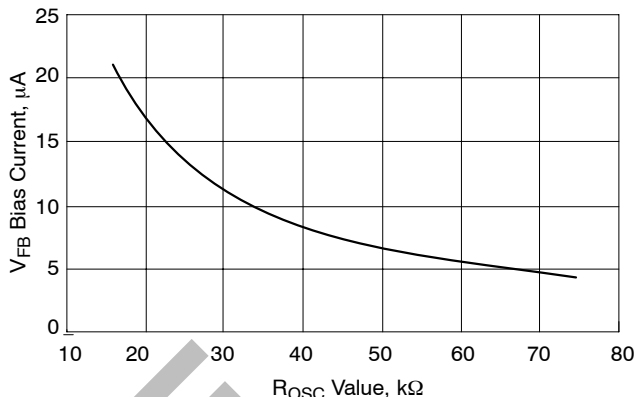

Figure 4. VFB Bias Current vs. ROSC Value
2. The  $V_{\text{FB}}$  Bias Current changes with the value of  $R_{\text{OSC}}$  per Figure 4.
To set the no-load positioning, a resistor is placed between the output voltage and  $V_{FB}$  pin. The  $V_{FB}$  bias current will develop a voltage across the resistor to increase the output voltage. The  $V_{FB}$  bias current is dependent on the value of  $R_{OSC}$ . See Figure 4.